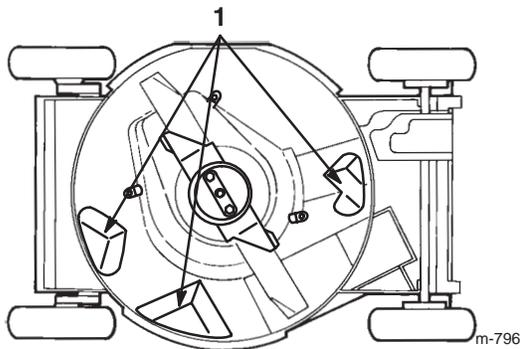

Figure 19
To ensure the best performance, keep the underside of the housing clean. Be especially careful to keep the kickers free of debris (Fig. 19).
3. Tip the lawn mower onto its **left** side (air cleaner up) (Fig. 19).